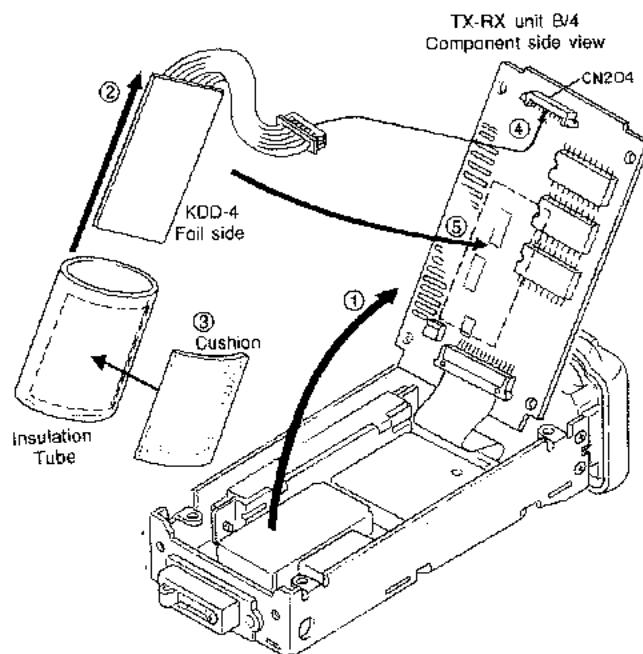

Fig. 7
3. Remove TX-RX unit B/4 (①). (Fig. 7)
4. Cover the entire KDD-4 with the supplied insulating tube (②).
5. Attach the double-sided adhesive cushion to the insulating tube (③) (on the insulating tube on the soldered side of the KDD-4).
6. Insert the KDD-4 lead connector into CN204 on the component side of the TX-RX unit B/4 (④).
7. Fix the KDD-4 covered with the insulating tube on TX-RX unit B/4 with the cushion facing down. (See Figure 7 for the fixing location (⑤). If it is not fixed correctly, it will touch other components.)